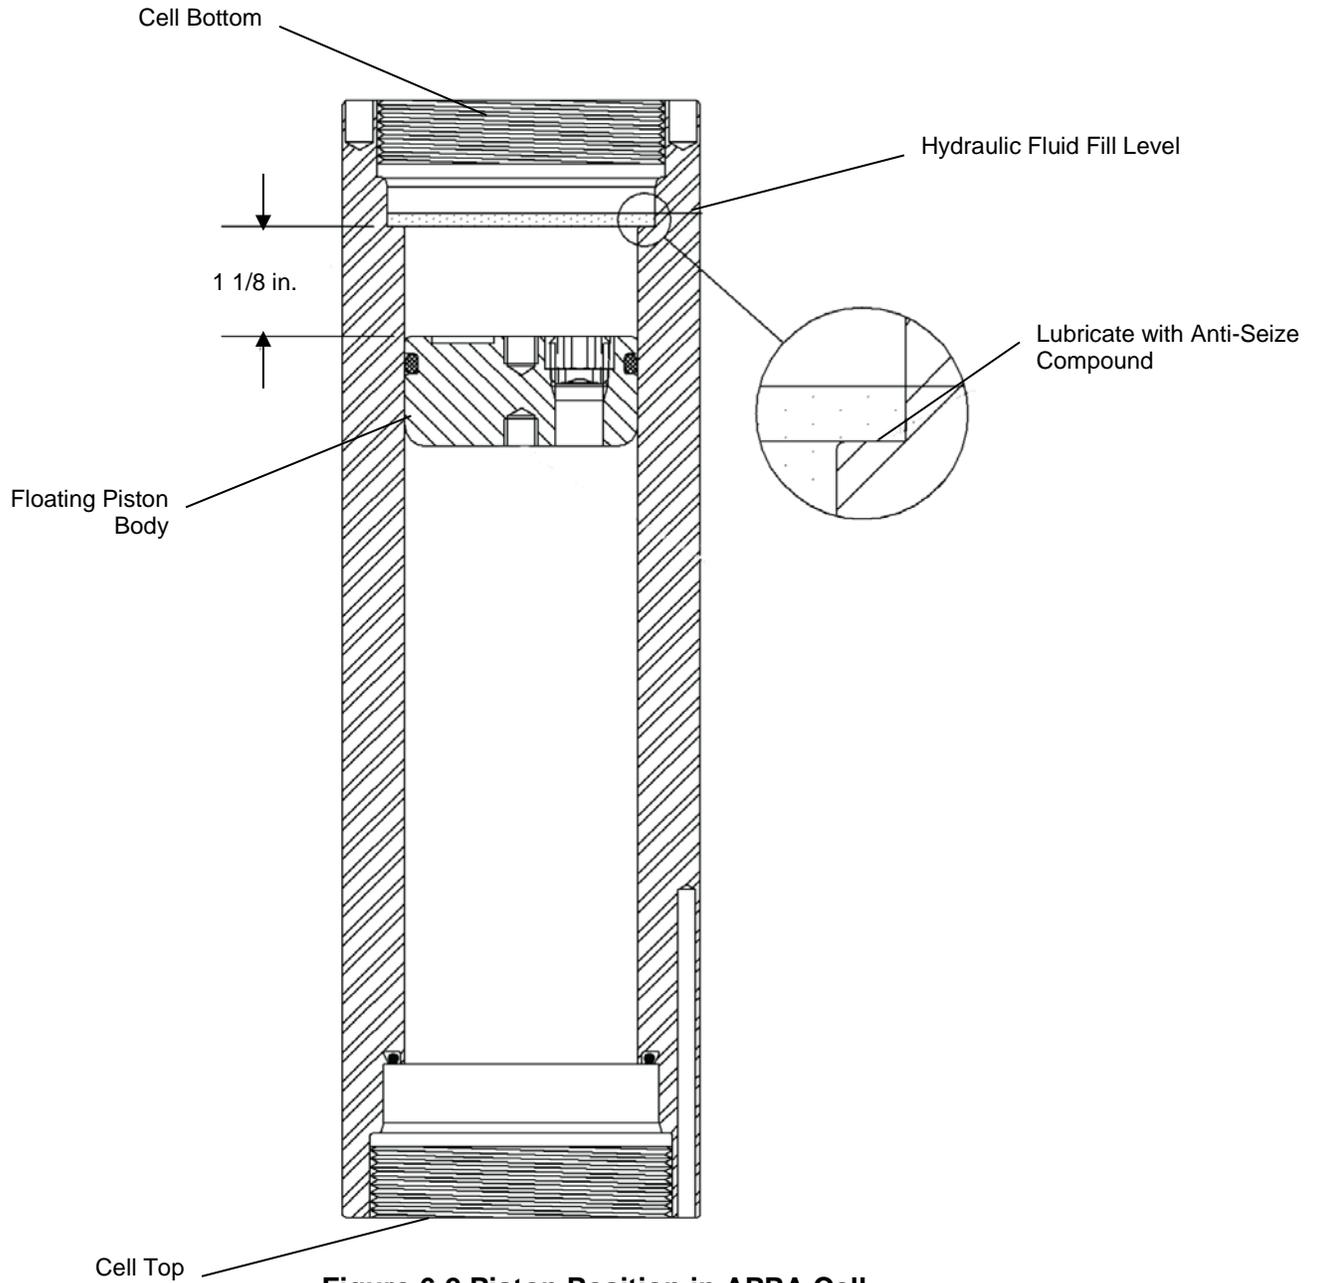

Figure 6-2 Piston Position in APPA Cell
- Figure 6-2, a drawing that shows the position of the floating piston and hydraulic fluid level in the APPA cell (inverted cell)
- b. Install the piston into the bottom of the cell, curved end first. See Figure 6-2.
2. Lubricate the end of the cell bore with high temperature grease as shown in Figure 6-2.
3. Fill the area above the piston with hydraulic oil, covering the area that was lubricated with grease. See Figure 6-2.